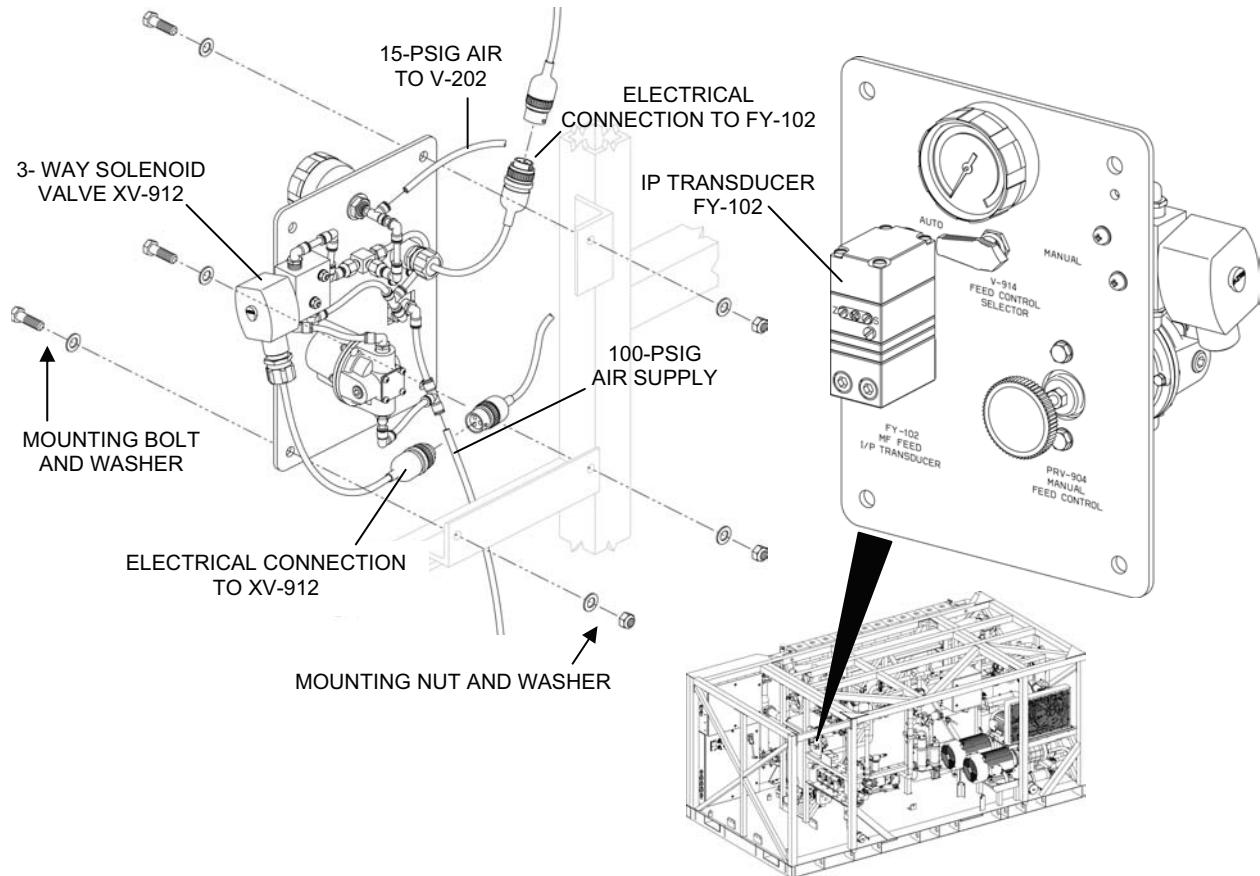

Figure 2. Feed Flow Control Panel Removal.
2. Remove the feed flow control panel assembly from the TWPS as follows (see Figure 2):
2. Install the new feed flow control panel as follows (see Figure 2):